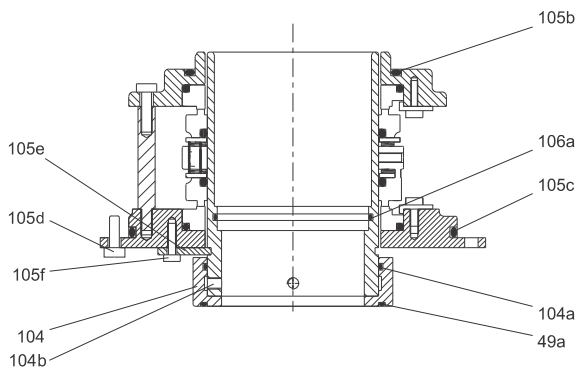

Fig. 91 Shaft seal, column 600-1800
2. Gently pull and remove the seal ring (pos. 104). See fig. 91.
6. Loosen the set screws (pos. 104b). See fig. 91.
7. Loosen and remove the screws (pos. 105d).
8. Mount the screws (pos. 105d) in the dismantling threads placed next to the normal position of the screws (pos. 105d) and tighten the screws equally until the shaft seal is loose.
9. Remove the shaft seal (pos. 105) by pulling it off the shaft.